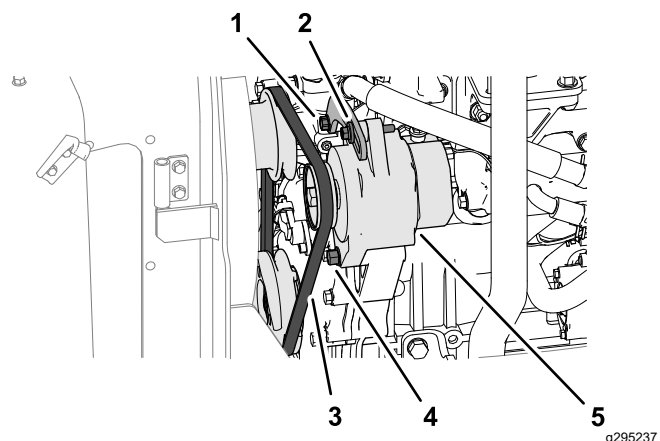

Figure 72
1. Apply 10 kgf (22 lb) of force against the alternator belt (Figure 72), midway between the pulleys.
- If belt deflection is less than 10 mm (3/8 inch), loosen the alternator pivot bolt and tension bolt (Figure 72), and reduce the belt tension.
- If belt deflection is greater than 10 mm (3/8 inch), loosen the alternator pivot bolt and tension bolt (Figure 72), and increase the belt tension.
Note: If needed, loosen the tension bracket bolt (Figure 72).
3. Tighten the bolts (Figure 72).